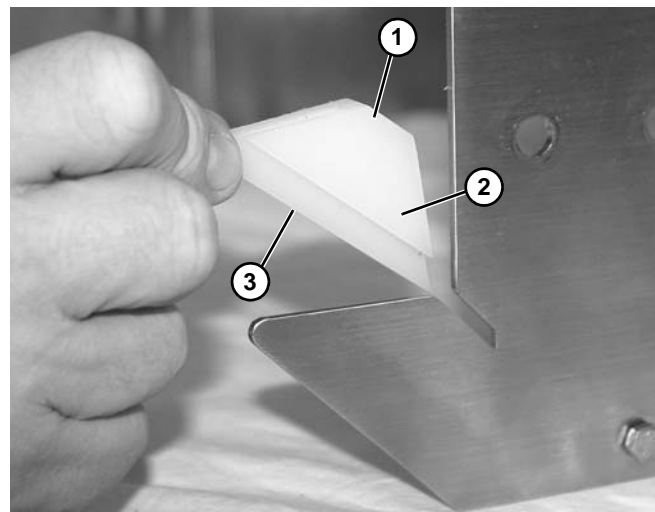

Figure 57
10. Remove belt support J-Legs (**Figure 57, item 1**).
Before installing shoe, make sure narrow surface (**Figure 57, item 2**) of J-Leg is to the outside, and wider surface (**Figure 57, item 3**) is installed toward the inside of conveyor.